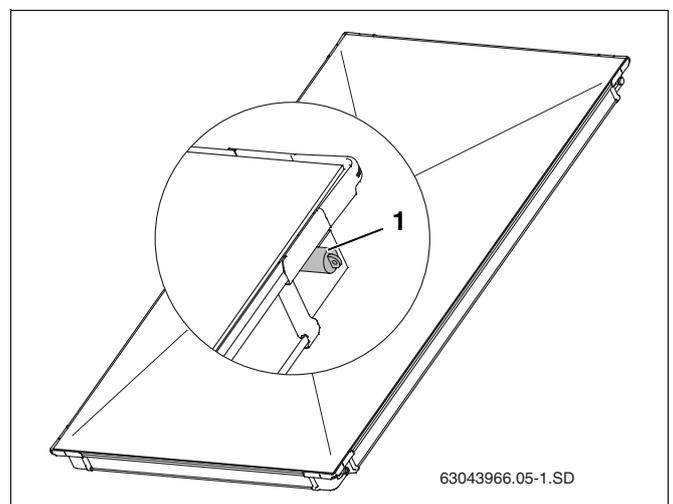

Fig. 6 Plastic caps on collector connections
- ▶ Do not remove the rubber caps (Fig. 6, **Item 1**) until immediately prior to installation.